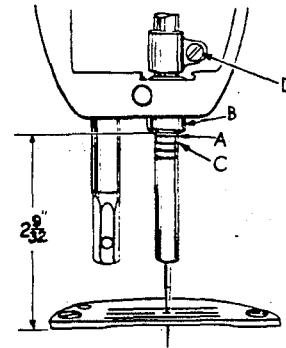
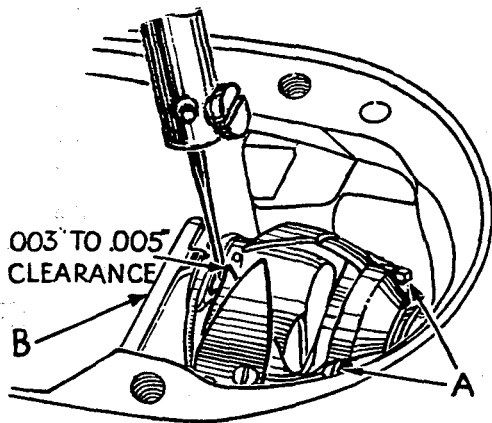

Fig. 13
Fig. 14
The lower needle bar bushing, the one to which the needle bar is timed, is set at the factory, the distance from the bottom of bushing (B, Fig. 13) to the throat plate seat is  $2\frac{9}{32}$  inches.
The illustration (Fig. 13) shows the proper setting of the needle bar on Style 61400 A using extra short needles Types 183GNS or 183GPS. The setting of the needle bar on Style 61400 B using short needles Types 180GNS or 180GPS is accomplished in the same manner except that the lower pair of timing marks on the needle bar is used.
Tip the machine back so that it rests on the rest pin in the table top. Insert a new needle. Loosen the two screws and swing out the bobbin case positioning finger (B, Fig. 14). Loosen the three set screws (A) in the hook and hold the hook and bobbin case holder in such a position as to prevent interference with the needle. Turn the handwheel in operating direction until the needle bar is at its lowest position, continue to turn the handwheel until the needle is ascending and the lowest timing mark of the pair used (C, Fig. 13) in setting the needle bar is even with the lower edge of the needle bar bushing (B).